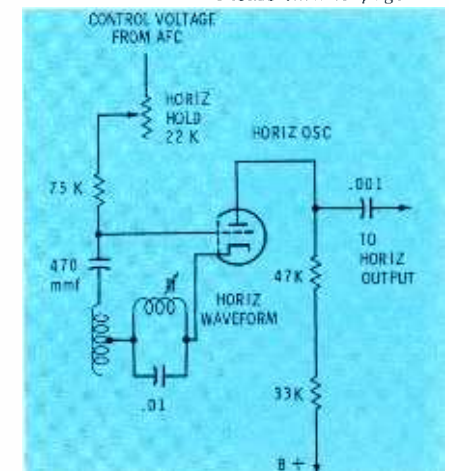

Fig. 6. A scope is not necessary for adjustment of the *Synchrophase* circuit.
*Synchrophase* circuits in recent RCA receivers (Fig. 6) have a marked resemblance to the *Synchroguide*, but cannot be adjusted correctly with an oscilloscope. Adjustment, however, is simple. Short out the waveform coil, short out the grid of the sync separator tube to remove the sync signal, and adjust the horizontal hold control until a picture floats by. Remove the short from the waveform coil, and adjust it to recover the picture. When you restore the sync signal, the picture should lock in.